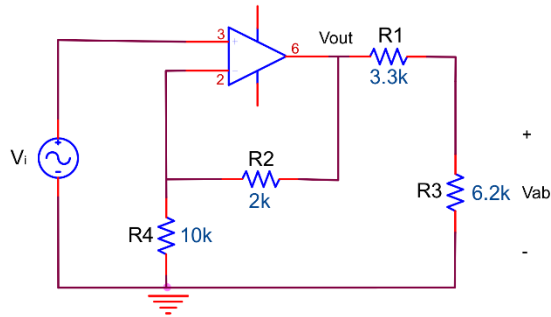

Figure 9.12
8. Construct the circuit of Figure 9.12. Measure v_o and the voltage across R_3 with an oscilloscope. Compare your result to that obtained in the pre-lab.
3. Simulate Figure 9.12